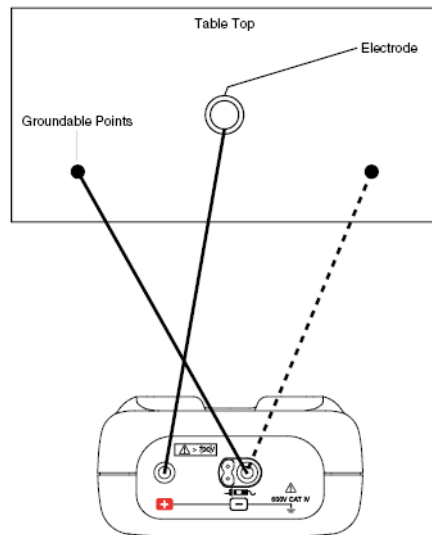

Figure 3
- Repeat this procedure with the Model 6536 connected between one weight and a known electrical ground (Figure 3).
- Resistance from test electrode to a groundable point (Figure 3): Measured value: $\leq 10,000\text{M}\Omega$ (10G Ω)